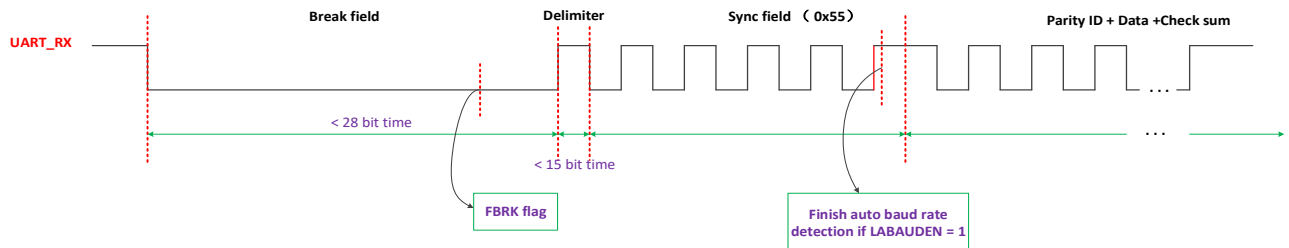

Figure 8-10 LIN frame flow
The UART LIN is just a soft LIN which transmits the break field, synchronous field and data respectively controlled by user as Figure 8-10. User can learn more details in the newest LIN protocol and Figure 8-10 just illustrates a basic frame condition. User should pay more attention to the UART_LINCR register in addition to the basic UART registers. In UART module, there exists a hardware unit for LIN detection and it is enabled when LINEN is configured to 1. It should be noted that only UART0 and UART1 support LIN function.
Firstly, receiving process are introduced based on the serial data stream appears on the UART_RX as Figure 8-10.
2. After delimiter bits period in Figure 8-10, synchronous field namely 0x55 acts as a normal data for receiving. If LABAUDEN is configured to 1, auto baud rate detection is in operation during synchronous field and the auto baud rate detection operation is finished just after the fifth rising edge illustrated in Figure 8-10. But the data 0x55 will not be stored into RX data register or FIFO. If LABAUDEN is configured to 0, auto baud rate detection is not performed and the data 0x55 is stored into the RX data register or FIFO.
To avoid the module halting when exception condition occurs, time out mechanism is brought in, as illustrated in Figure 8-10.